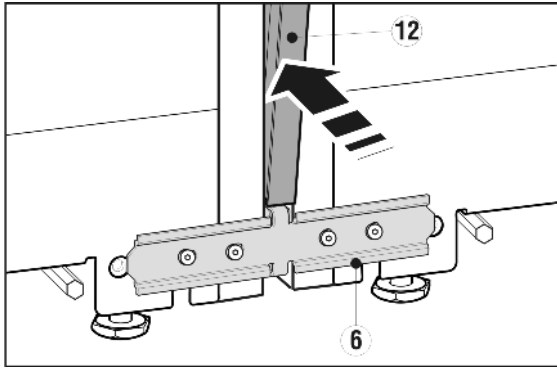

Fig. 7
Before insertion, press together the two sides of the cover strip Fig. 7 (12) over the entire length. Then the strip can be inserted more easily into the gap. Use a soft cloth for pressing so as to prevent indentations in the surface of the cover strip. Press the strip into the gap carefully and straight so as to achieve an optimal connection.
- ▶ On the front, press the long cover strip Fig. 7 (12) into the vertical gap. Pay attention that the strip rests on the mounting bracket Fig. 7 (6).